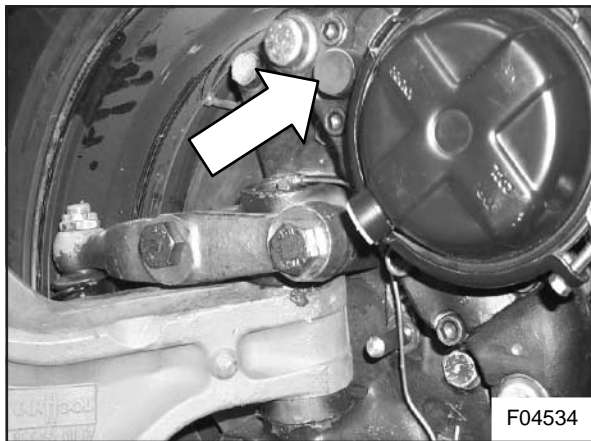

Figure 17 : Adjuster stem cap
5. Remove the adjuster stem cap (see Figure 17).